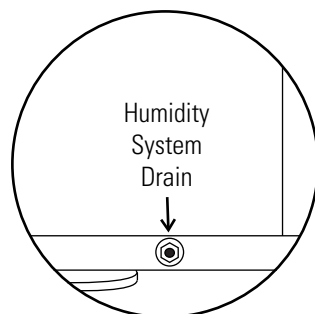

Figure 7-1. RH Drain
5. Connect the other end of the fitting to the quick-connect drain located below the fold-down storage door. See Figure 7-1. Allow water to drain. This may take several minutes.